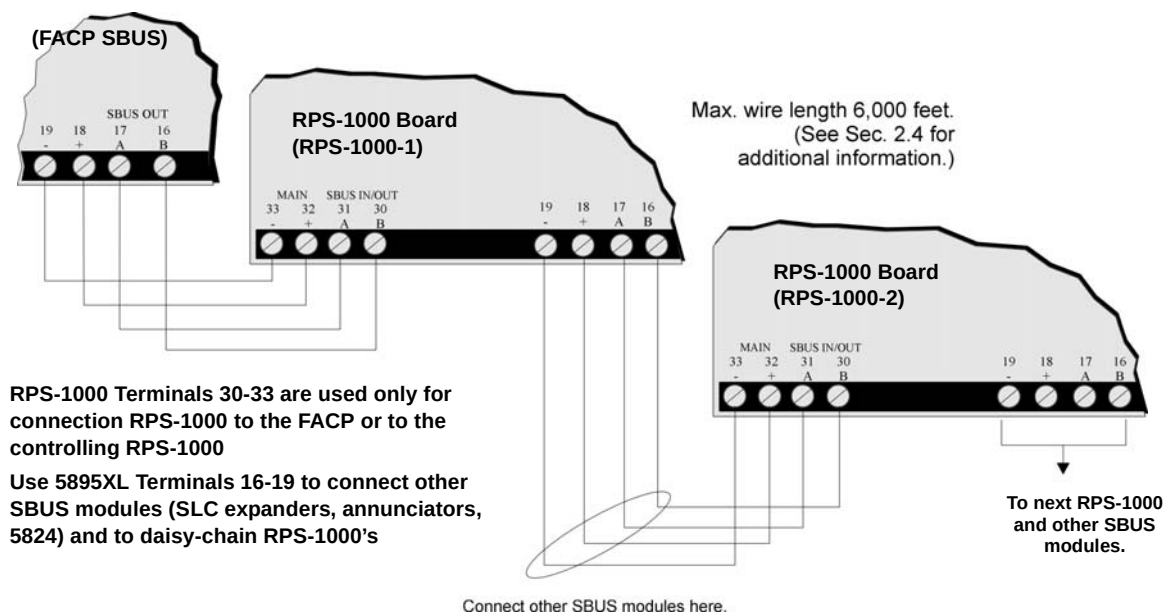
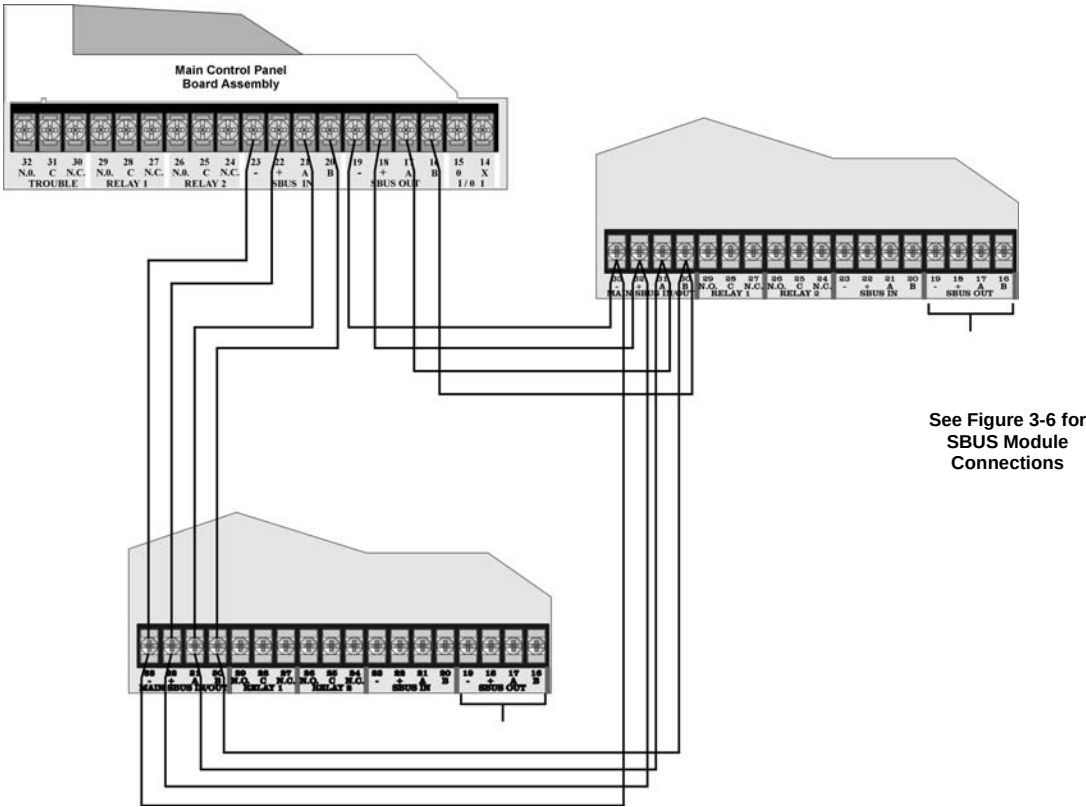

Figure 3-3 Class B RPS-1000 Connection to FACP
Figure 3-4 Class A RPS-1000 Connection to FACP
1. Connect the RPS-1000 to the appropriate SBUS. The RPS-1000 can be connected directly to the FACP or can be daisy-chained to another RPS-1000. Figure 3-3 and Figure 3-4 show both connections.